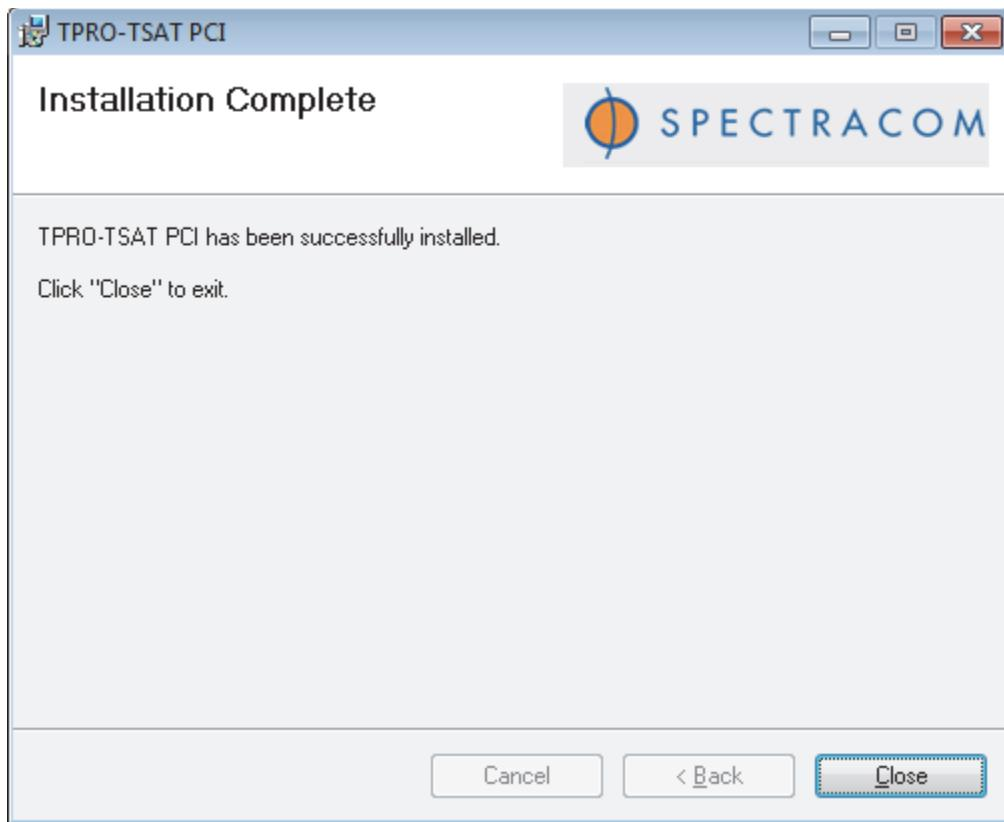

Figure 5-34. TPRO-TSAT PCI Installation Complete Window
7. Select **Close** at the TPRO-TSAT PCI Installation Complete screen as shown in Figure 5-34.